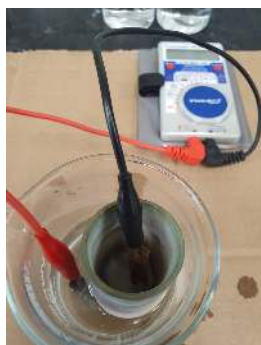

Figure 2. Set up for galvanic cell without a salt bridge
3. You will not be using a salt bridge. You will be setting up your half cells in a slightly different manner (Figure 2). Pour a small amount of the $\text{Zn}(\text{NO}_3)_2$ solution inside the ceramic cup. Pour a small amount of the $\text{Cu}(\text{NO}_3)_2$ solution inside a 250 ml beaker (or other container of appropriate size). The solution level cannot be higher than the height of the ceramic cup. Place the ceramic cup inside the 250 ml beaker, taking care to keep the two solutions separated. The ceramic cup is porous, and allows for contact between the two solutions, but no appreciable mixing.